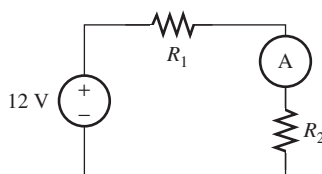

FIGURE P14.13
- 14.13** (A)* In Figure P14.13, determine the error percentage of the current reading due to the insertion of an ammeter. $R_1 = 3\text{ k}\Omega$, $R_2 = 5\text{ k}\Omega$, and the internal resistance of the ammeter is $R_g = 50\ \Omega$.